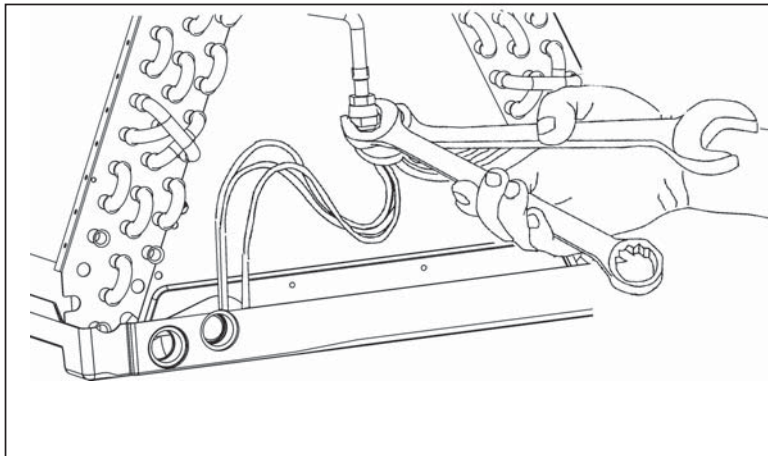

Figure 3. Wrenches on Distributor Body and Assembly Nut
1. Loosen the orifice/distributor body halves by applying two wrenches and squeezing them together, as shown in Figure 3 , to turn the assembly nut counter-clockwise.